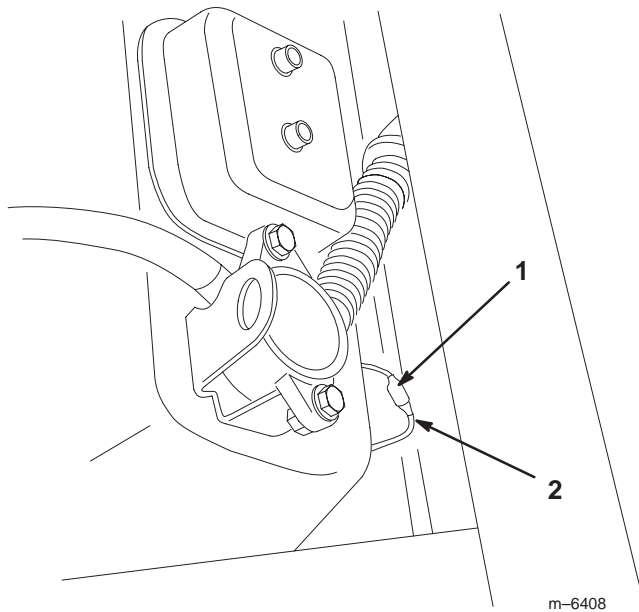

Figure 5
1. Disconnect the in-engine alternator from the battery by disconnecting the red connector from the white connector at the front of the engine (Fig. 5).